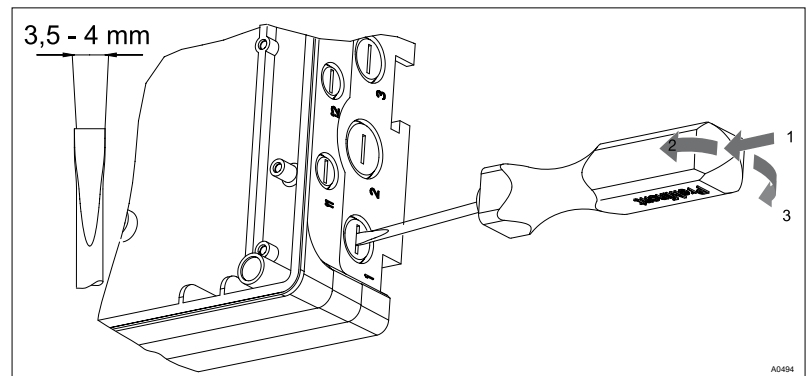

Fig. 10: Breaking out threaded holes
2. ➤ To break out the threaded holes, punch the slit in the middle of the threaded holes using a screwdriver (tip width 3.5 - 4 mm, see Fig. 10) and lever the material out